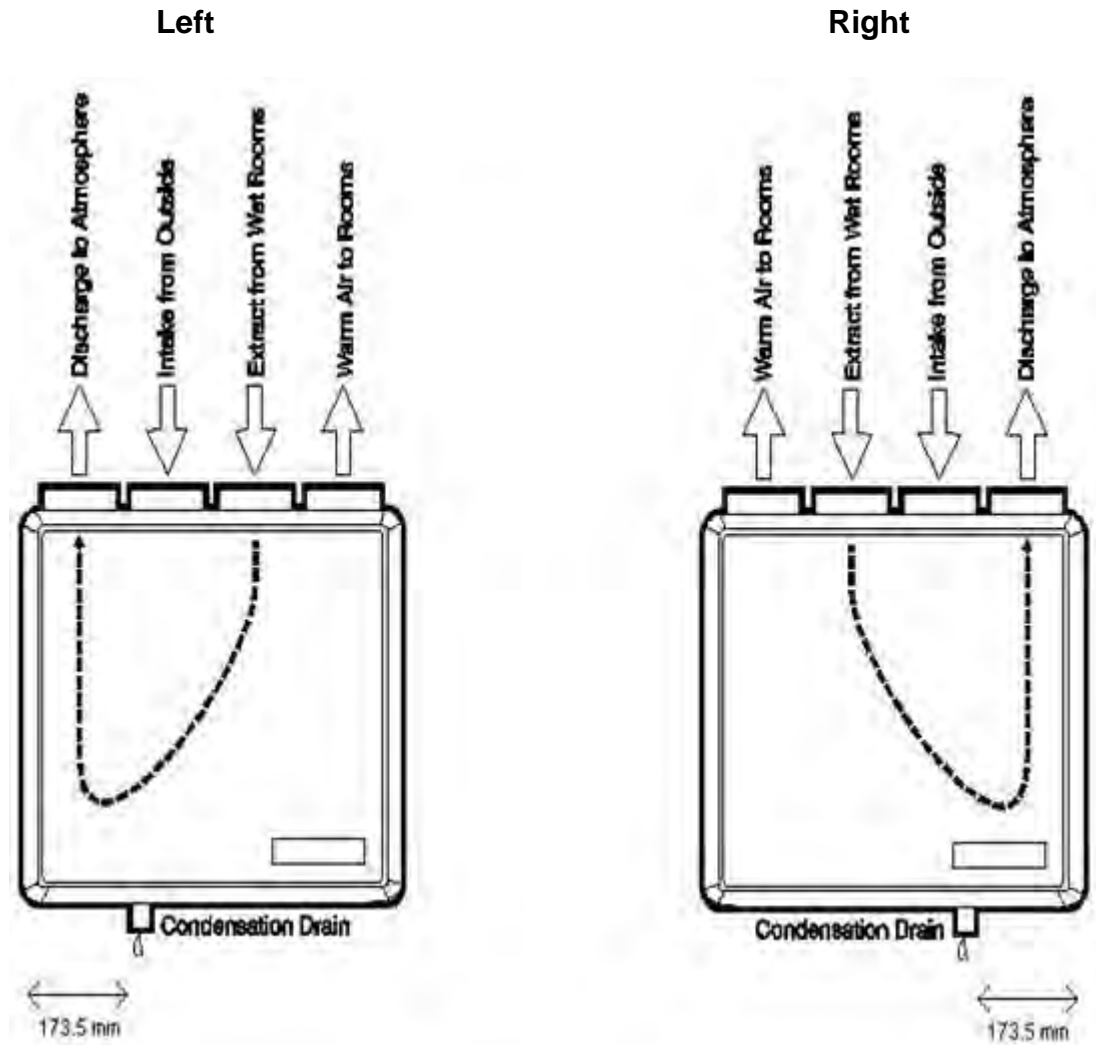

Figure 3: Connection of the condensate drain (vertical position)
The unit can easily be set up for left or right hand operation. This can be done by changing the position of the condensation drain at the bottom of the unit. See **Figure 3** on page 9.
8. When the HR unit has been mounted, the duct runs can be completed. Remember that both ducts to and from the outside should be fitted to one side of the unit and the ducts to and from the home are attached to the other side of the unit. Also the condensation discharge can be fitted at this stage, please see **Figure 3** for reference on which side it should be fitted.
The condensation drain must be mounted at the bottom of the heat recovery unit with the fitting supplied. Use a 20mm core drill bit to drill a clean hole which removes the debris, taking care to drill on the correct side of the unit according to left or right handed configuration (see **Figure 3**).
- 3) Determine what side you want the condensate drain to be (see **Figure 3** for left and right hand positioning). If mounting the unit vertically the condensate hole needs to be in position shown at its lowest point to allow the condensate to run out (image shown for right hand installation).
- 4) Mark off with a pencil 173,5mm from the side of the unit (see **Figure 3**) taking into account left or right hand configuration. From this point measure 52,5mm towards the rear of the unit – this is the point deemed to be the most effective location for the condensation drain. Now use a 20mm core drill bit to drill a clean hole at this point ensuring all the debris is removed.